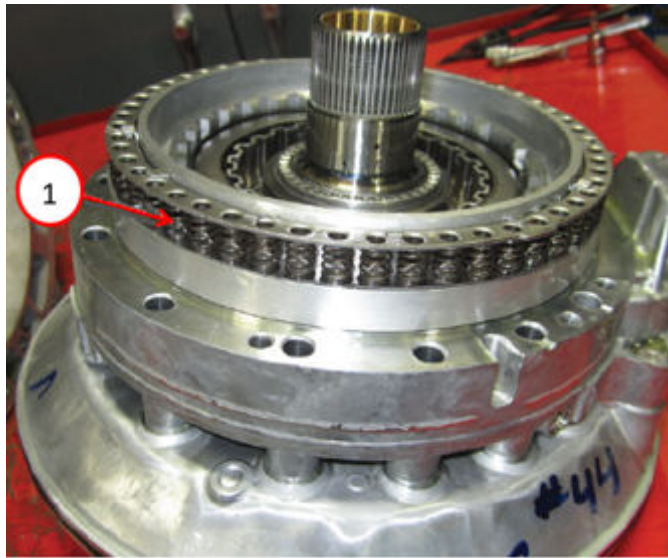

**Fig. 16**
22. Carefully pry the oil pump housing away from the case using a small flat blade screwdriver or equivalent through the case opening Fig. 16.